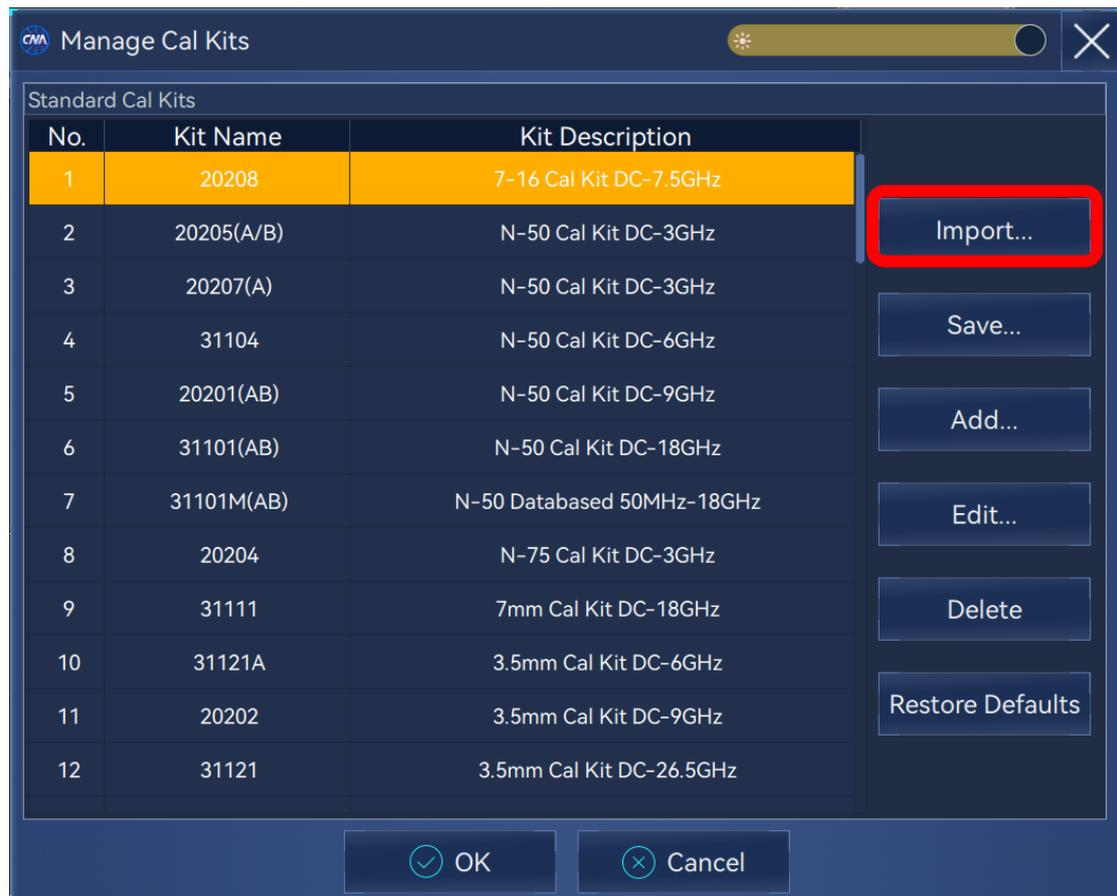
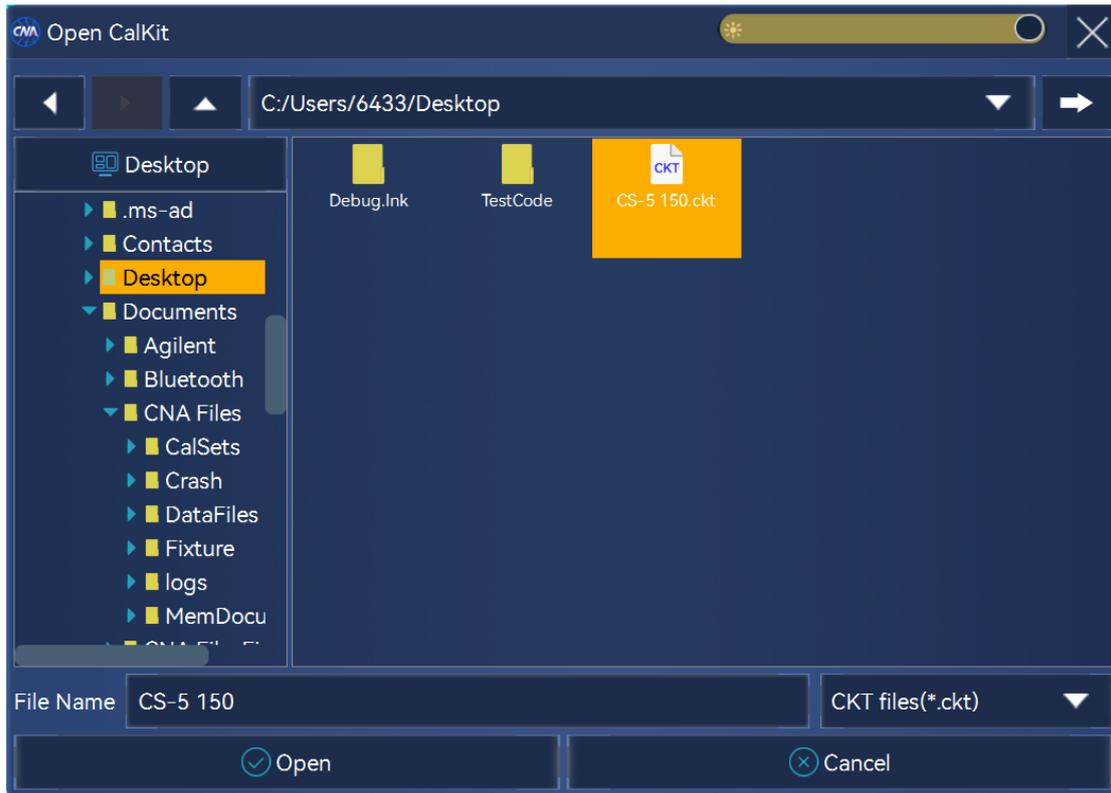
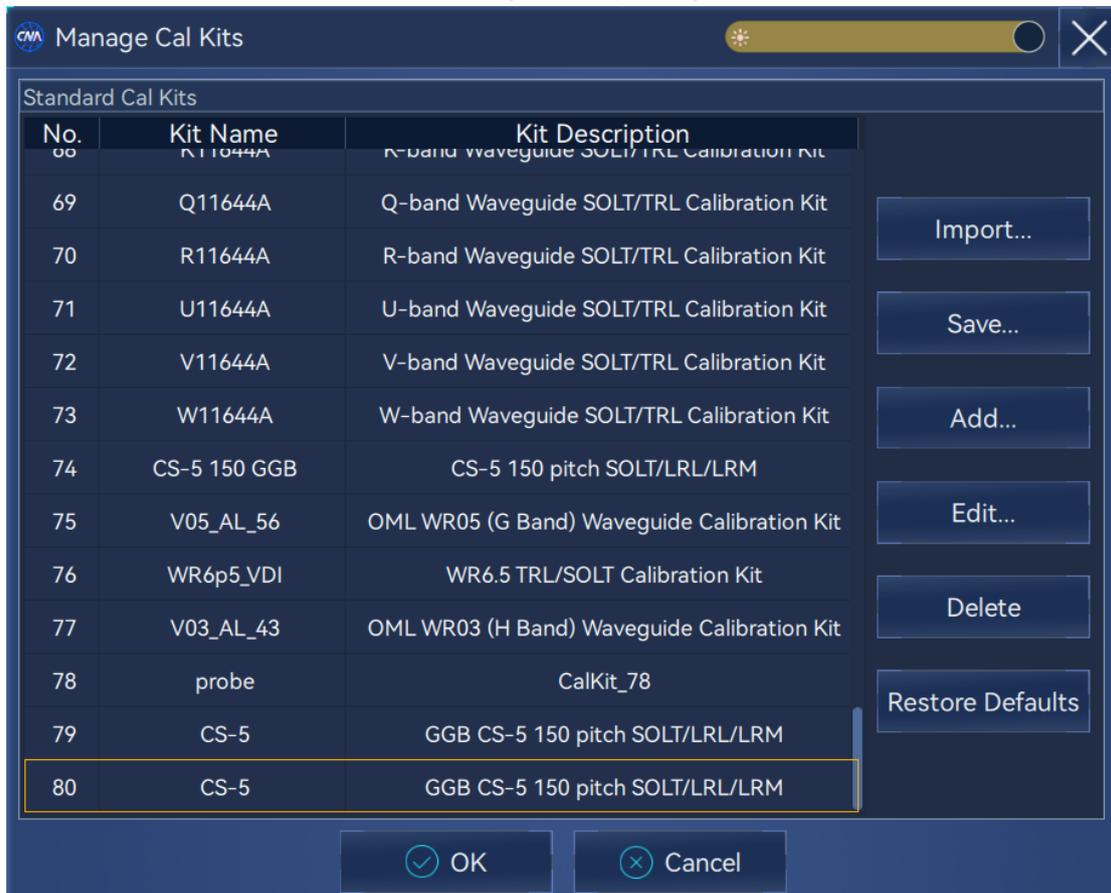

Figure 1(b)
Figure 2 Opening
Figure 3 Successful import
Step 2: Click [Import kit...] in Figure 1(b) to pop up the Open dialog box as shown in Figure 2. Select a calibration file and click Open to import the calibration file. After the import is successful, the loaded calibration file will appear in the Edit Calibrator dialog box, as shown in Figure 3. Click OK to finish importing the calibration file.